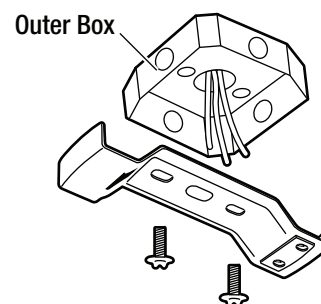

Figure 4
- Secure the supporting bar to the ceiling outlet box as shown in Figure 4 by using two screws and washers (not provided). Make sure the supporting bar is level. You may need to insert additional washers (not provided) between the outlet box and the supporting bar to make it level.